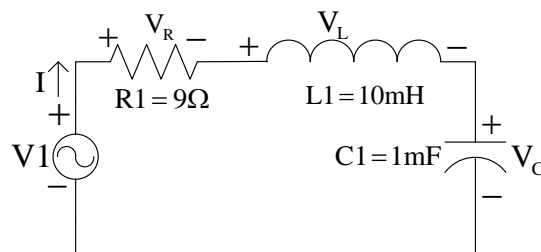

Figure 1. Example circuit.
1. In Figure 1,  $V1 = 10\angle 0^\circ \text{V}$  and  $\omega = 200\pi \text{ rad/sec}$ . Calculate the current  $I$ , voltage across the resistance  $V_R$ , voltage across the inductance  $V_L$ , and voltage across the capacitance  $V_C$ . Determine the phase difference between the current  $I$  and the input voltage  $V1$  and between the current  $I$  and the voltages  $V_R$ ,  $V_L$ , and  $V_C$ .
1. Draw the circuit as shown in the Figure 1 in PSpice Schematics window. The voltage source  $V1$  in the circuit is  $VSIN$ .